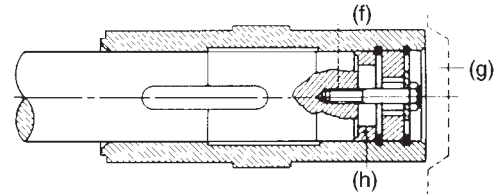

Fig. 11 Securing (driven shaft without shoulder)
Special Cases (Fig. 11)
(1) If the driven shaft has no shoulder (Fig. 11) when mounting, provide a distance ring (h) for fixing in place. (Distance ring (h) is not supplied with the unit.)